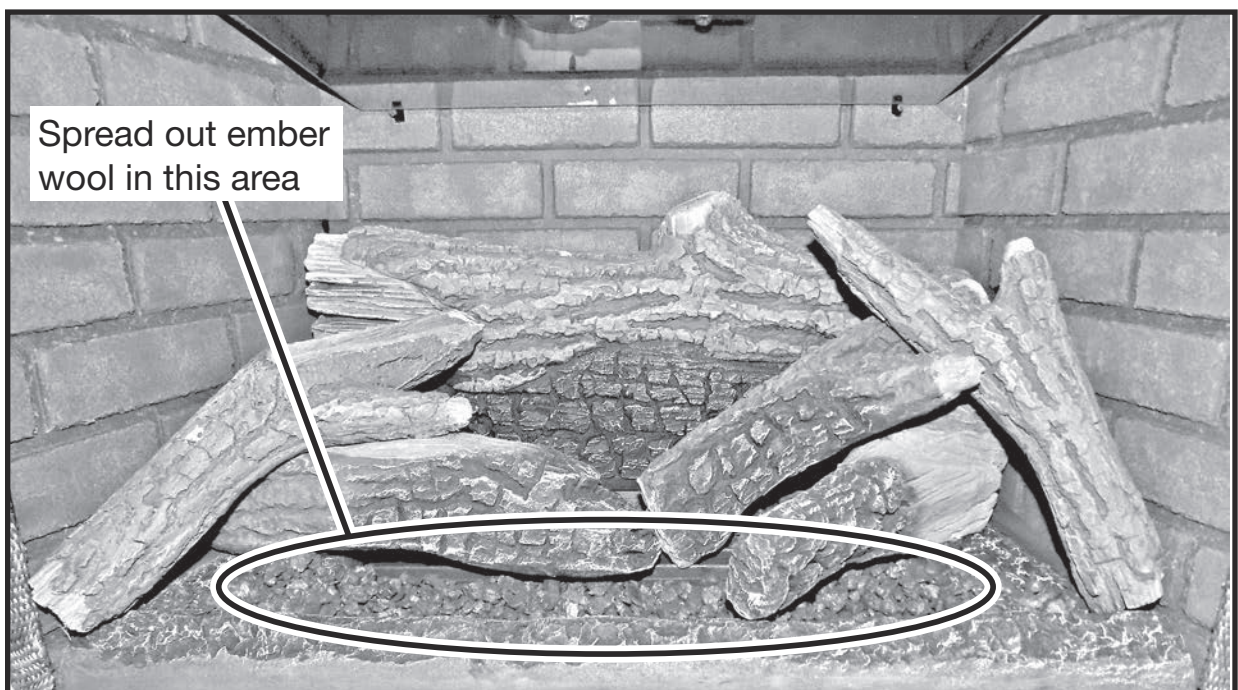

Figure 82: 6th log placement and ember wool distribution.
14. Place the 6th log (Figure 61) so that the top end rests on top of the 2nd log and the bottom end rests against the left wall panel and left base piece (Figure 82). The bottom end should be close to the front edge of the left base piece but not so close that it will be disturbed when re-installing the fireplace door.
16. Spread contents of bag of Ember Wool (Figure 63) in front of the logs to finish (Figure 82) .